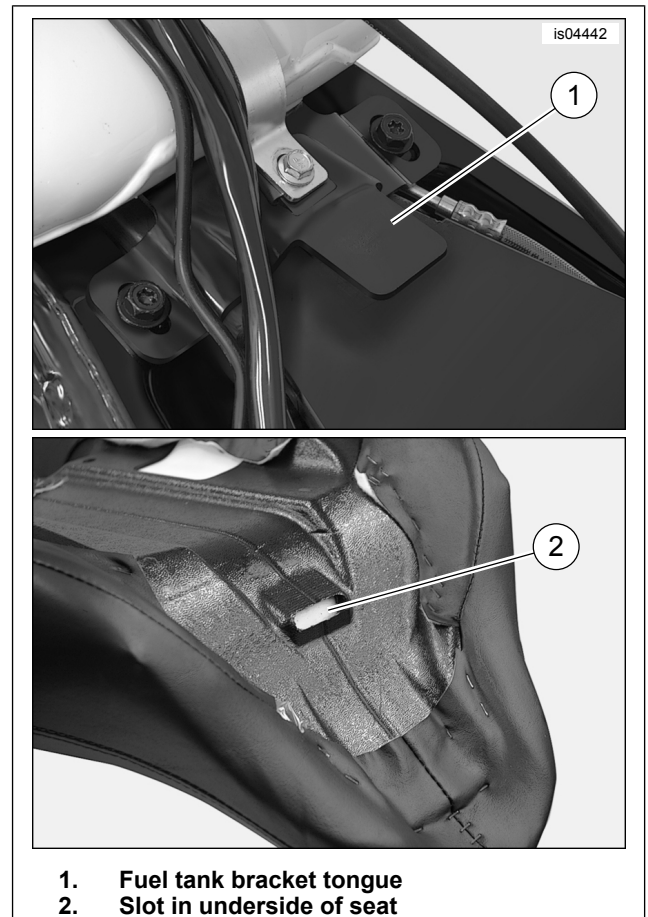

Figure 4. Seat Front Mounting
2. See Figure 4. Slide the rear of the seat through the grab strap, from the front, until the slot (2) on the front underside of the seat is behind the seat mounting tongue (1) on the fuel tank rear bracket.
1. See Figure 4. Install seat until slot (2) on the front underside of the seat is behind the seat mounting tongue (1) on the fuel tank rear bracket.